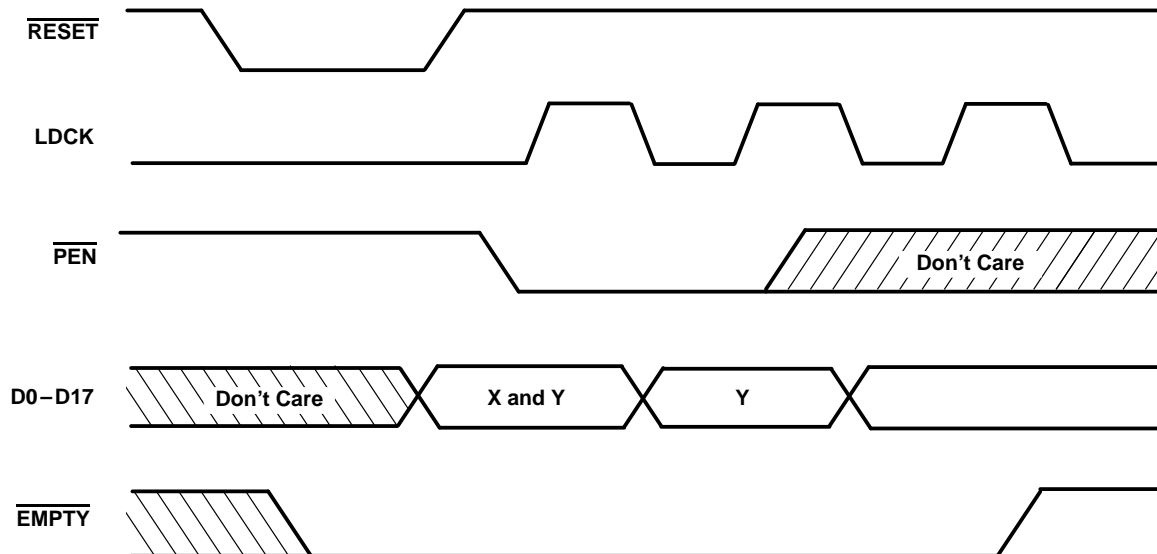

Figure 2. Programming X and Y Separately
To program the offset values,  $\overline{\text{PEN}}$  can be brought low after reset. On the following low-to-high transition of LDCK, the binary value on D0–D7 is stored as the almost-empty offset value (X) and the almost-full offset value (Y). Holding  $\overline{\text{PEN}}$  low for another low-to-high transition of LDCK reprograms Y to the binary value on D0–D4 at the time of the second LDCK low-to-high transition. Writes to the FIFO memory are disabled while the offsets are programmed. A maximum value of 31 can be programmed for either X or Y (see Figure 2). To use the default values of X = Y = 8,  $\overline{\text{PEN}}$  must be held high.